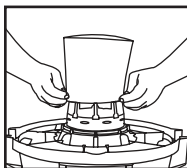

FIGURE 27
42. With tank cover in an upside down position, slide foam sleeve down over lid cage pulling until foam sleeve completely covers lid cage. **FIGURE 27.**